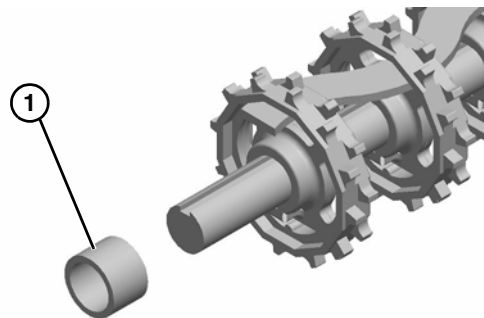

Figure 49
8. Slide off drive sprocket spacer (Figure 49, item 1).